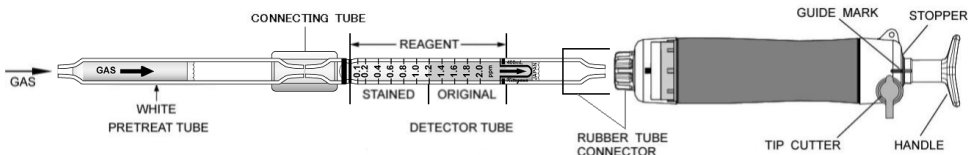

Fig.1
- ① Break both ends of the detector tube and pretreat tube, and connect each end of the detector tube and pretreat tube with connecting tube as shown in Fig.1.
- ② Insert the detector tube into the aspirating pump securely as shown in Fig.1. (Arrow marks shall point to the pump.)
- ③ Align the guide marks on the shaft and stopper of the aspirating pump.
- ④ Pull the pump handle at a full stroke until it locks and wait for 3 minutes or until the completion of sampling is confirmed with the flow indicator of the pump (See descriptions about the flow indicator in the instruction manual of the pump).
- ⑤ Push back the handle without removing the detector tube from the rubber tube connector so that air in the pump will be discharged perfectly. Then repeat the step ③ ~ ④ three times.
- ⑥ On completion of sampling, read the scale at the maximum point of the stained layer.
- ⑦ When the concentration is over the scale range, 1 pump stroke can be used to determine concentrations of 0.5 - 10 ppm.